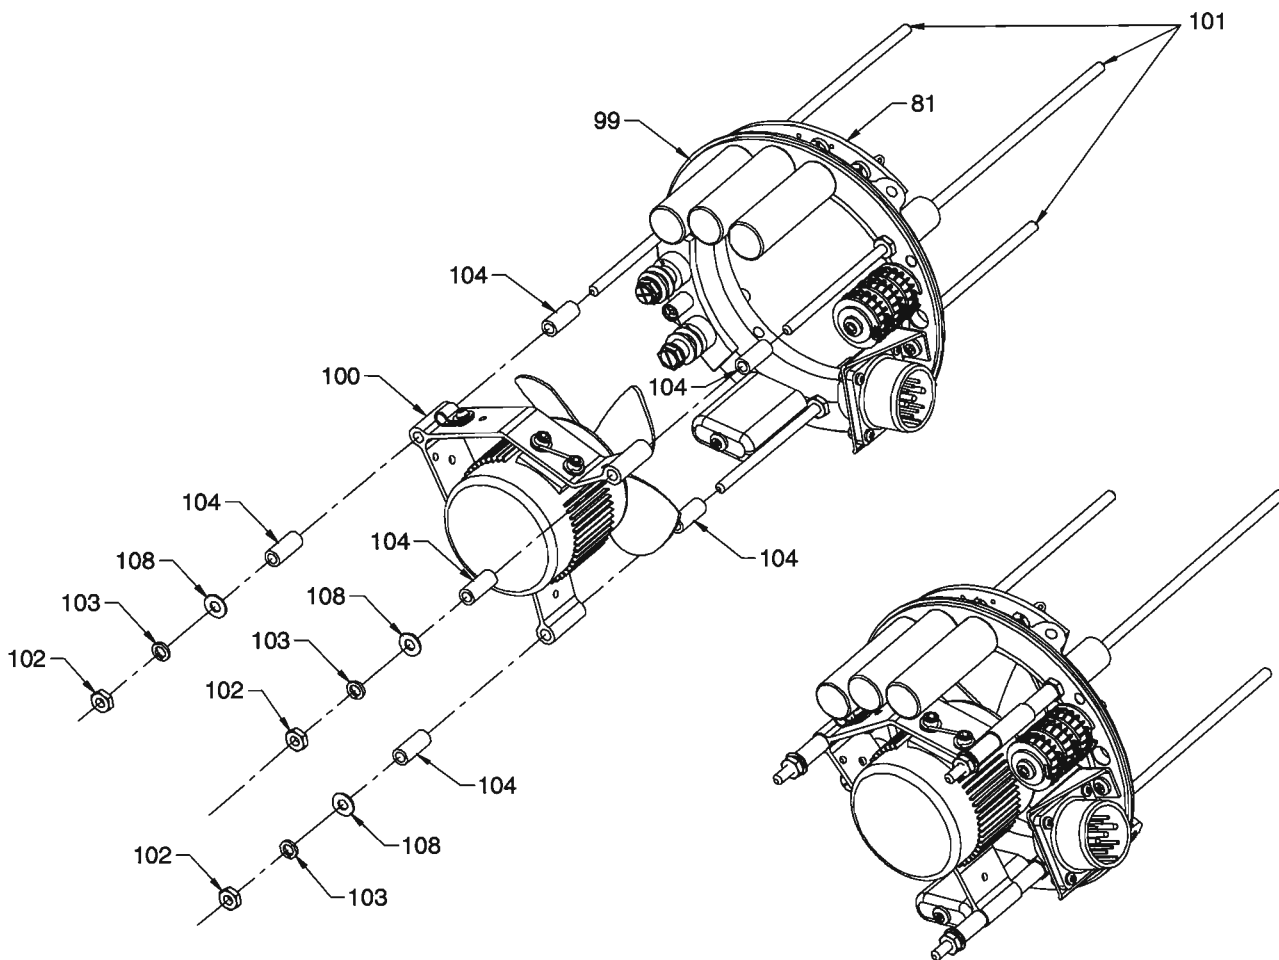

Figure 1. Original Fan Motor Assembly Removal
Disassemble the 28VS200Y-4DH TRU in accordance with the instructions provided in this manual and only to the extent necessary to perform the required repair. Numbers in parentheses refer to the Illustrated Parts List, Figure 1 of the De Havilland, Canada Dash-8, Component Maintenance Manual (24-31-46), unless otherwise indicated, and should be referenced for specific procedures and parts identification.
- (1) Remove mounting base (3), end bell (1) and case assembly (6) in accordance with IPL, Figure 1 of component maintenance manual 24-31-46.
- (2) Remove original fan motor assembly (100) wire lugs (112) from AC Terminal Board (81).
- (3) Remove three nuts (102), three lockwashers (103), three flat washers (108) and three spacers (104) from original fan motor assembly (100) as illustrated in Figure 1.
- (4) Remove original fan motor assembly (100) from threaded tie bolts (101).
- (5) Remove remaining three spacers (104).
- (8) Install mounting base (3), end bell (1) and case assembly (6) in accordance with IPL, Figure 1 of component maintenance manual 24-31-46.
- (9) Position reactor (75) onto motor ring (99) and install screw (76), washer (78) and nut (77) and tighten until secure.
- (10) Position input connector (93) onto motor ring (99) and install two screws (97) and two nuts (98) and tighten until secure.